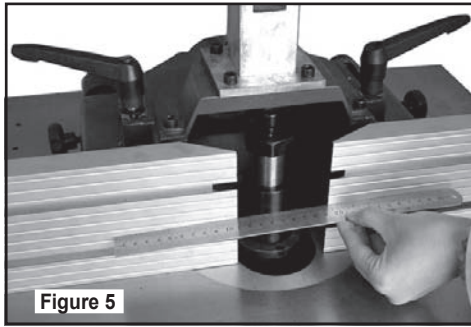

Figure 5
4. To align the fence extrusion, adjust one or both fence so they are in close alignment. Check the alignment with a straightedge as shown in **Figure 5**.